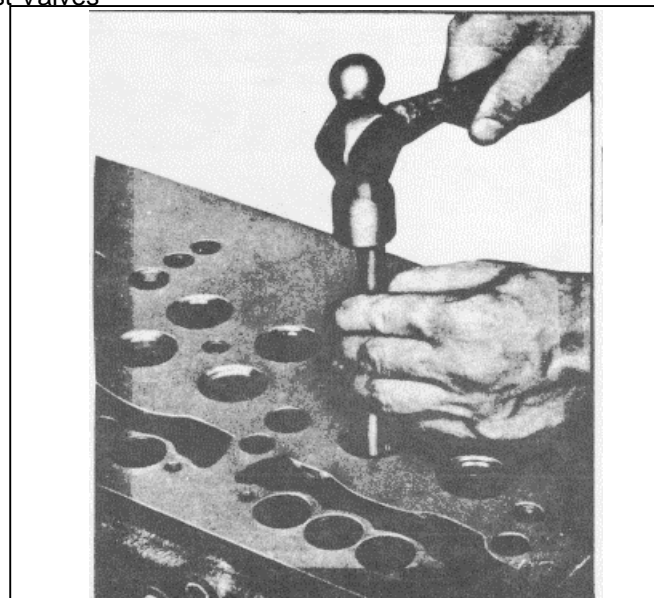

Fig. 6
- (1) Support the cylinder head, bottom side up, on 2 inch thick wood blocks.
- (2) Drive the valve guide out of the cylinder head with tool J 6569 (Fig. 6).